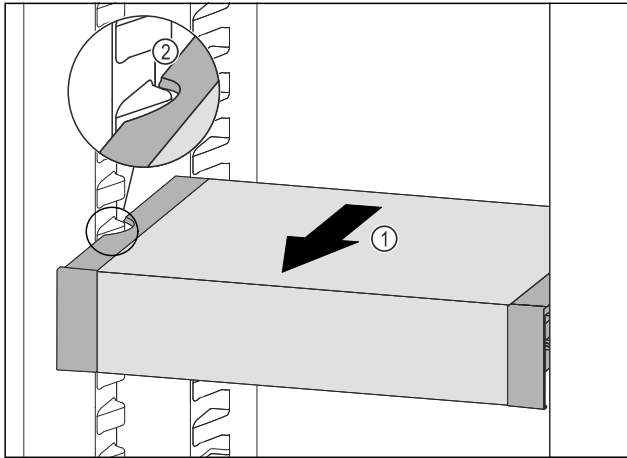

Fig. 101
- ▶ Pull VarioSafe forward *Fig. 101 (1)* until the recesses in the side of the VarioSafe are at the level of the support rib in the refrigerator compartment. *Fig. 101 (2)*